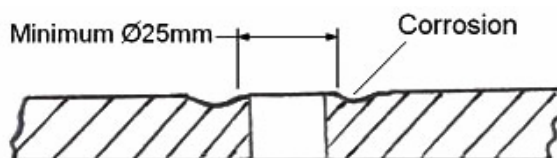

Figure 2: Corrosion Around Fixing Holes in Bearer Plate
- B1.1 Check for localised corrosion around the fixing holes (see Figure 2). A minimum bearing area of Ø25mm shall exist around all fixing holes. No erosion is permitted in this area.
- B2.3 Check for localised corrosion around the fixing holes (see Figure 2). A minimum bearing area of Ø25mm shall exist around all fixing holes. No erosion is permitted in this area.